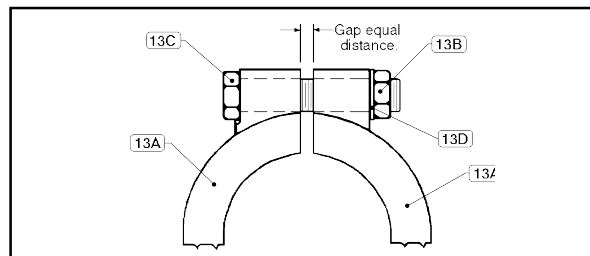

Figure 1: Clamp Arrangement.
3. Remove socket head set screw (30) CCW from end of guide post (27).
4. Pull hitch pin (21) and lift up on handle (6) to remove.
5. Loosen and remove clamp nuts (13B), washers (13D), bolts (13C) and clamps (13A). See Figure 1.
6. Place matchmarks between body (1) and spring chamber (2) to assist in final orientation when reassembled. Lift spring chamber (2) vertically up and off of body (1) and above guide post (27) to remove. *Note alignment of spring button (4) tabs (ears) with respect to slot guides inside spring chamber (2).*
7. Remove bearing (26). Lift up and remove adjusting screw cap (25.7) and dowel pin (25.8) assembly. **NOTE:** *May need to tap lightly on O.D. of adjusting screw (25.6) to free Dowel pin (25.8) from adjusting screw (25.6).*
¹ Refer to Figure 1 for Clamp and related item numbers.